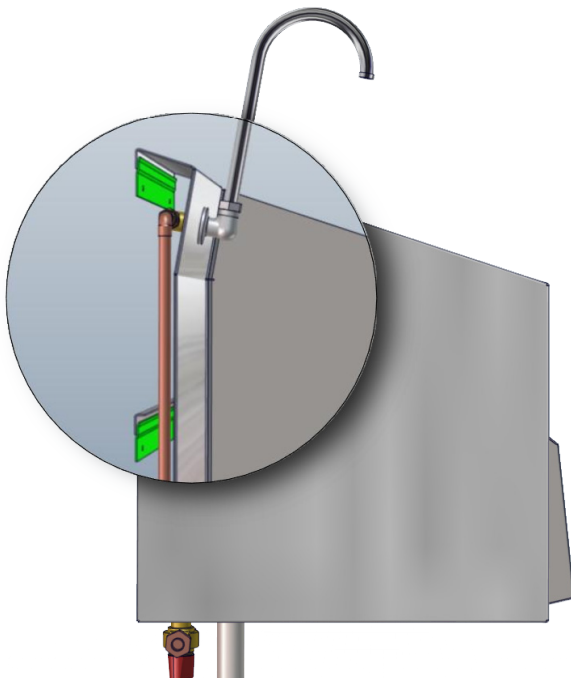

Fig. 1: Cross section showing Z brackets locations
- A. With the help of an assistant, slide the sink over the "Z" bracket(s) until it locks securely into place (Fig. 1 - Fig. 2, Z brackets shown in green).